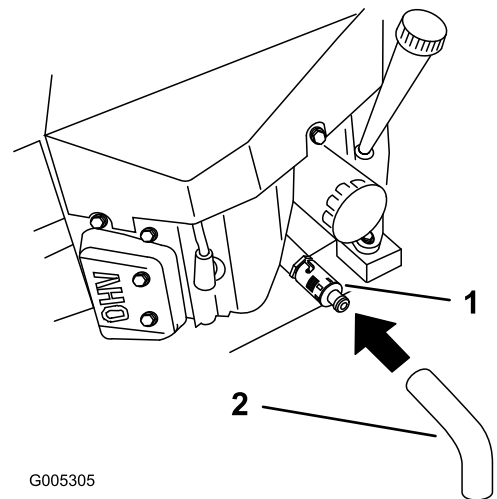

Figure 32
6. Place a pan below the drain hose. Rotate oil drain valve to allow oil to drain (Figure 32).
8. Remove the drain hose (Figure 32).